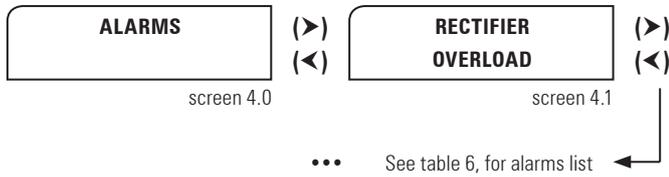

Fig. 48. Screen 4.0 «Alarms» and its submenus.
7.3.5. "ALARMS" level (menu screen 4.0). See Fig 48.
Fig. 48 shows just only one alarm as an example, but there could be some of them active at the same time.